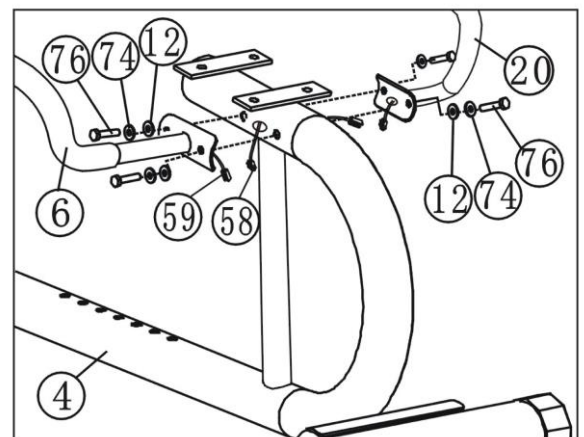

Figure 7
to the Seat cushion adjustor (4) with four M8*20 Bolts (76), spring washers (74) and Arc washers (12). (See figure 7)